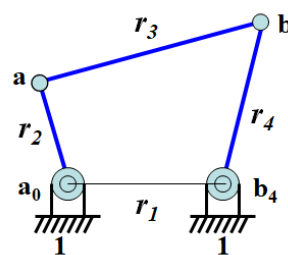

Fig.1. Four-bar linkage
1. Fig. 1 show a four-bar linkage, which is a crank-rocker mechanism. If $r_2=100\text{cm}$, $r_3=150\text{cm}$, $r_4=200\text{cm}$, please find the length range of r_1 . (15%)